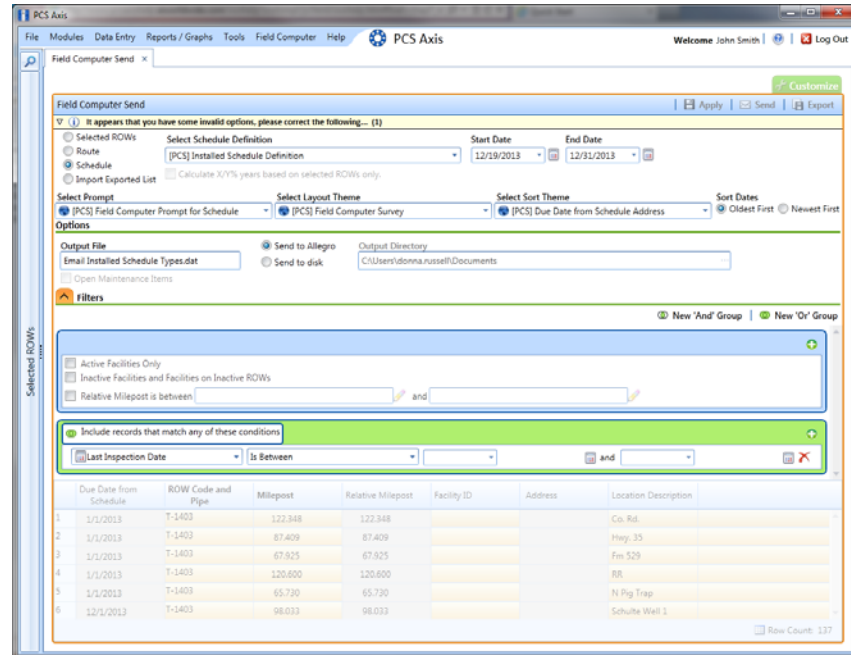

Figure 12-13. New 'Or Filter Group
- 17** To filter records in the grid and in the schedule sent to the Allegro based on a subset of records that meet *any* filter condition, complete the following steps to add a new OR filter group (Figure 12-13):